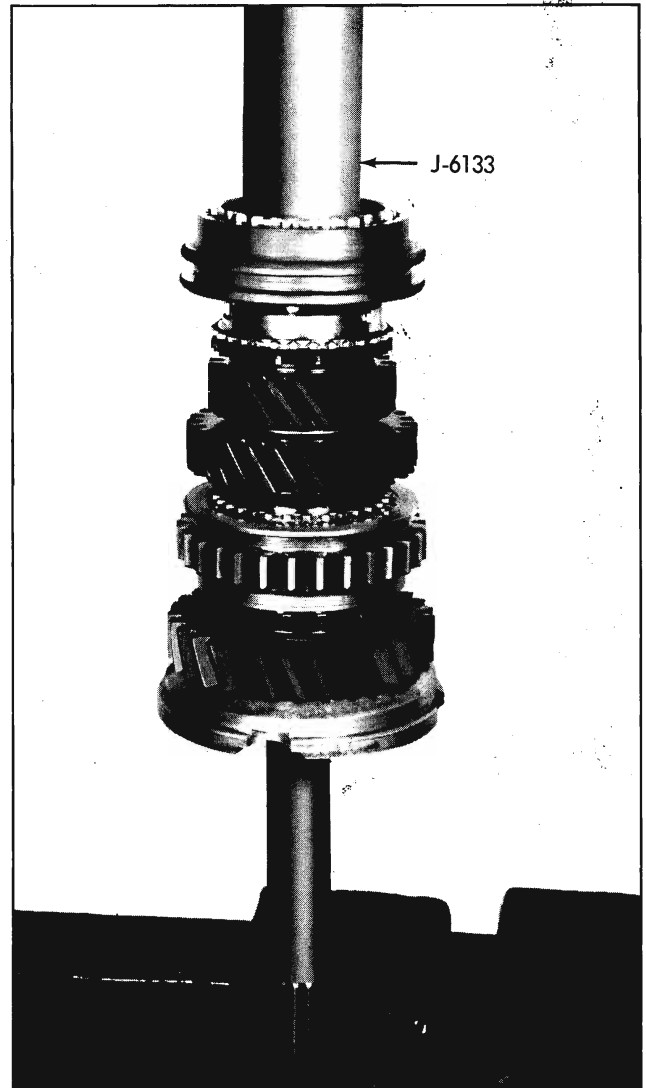

Fig. 7B-24 Installing 3-4 Synchronizer Unit
1. Install reverse inhibitor plug, then spring and reverse inhibitor plunger (Fig. 7B-13).
2. Install reverse inhibitor detent ball, ball seat, spring, and plug (Fig. 7B-12).